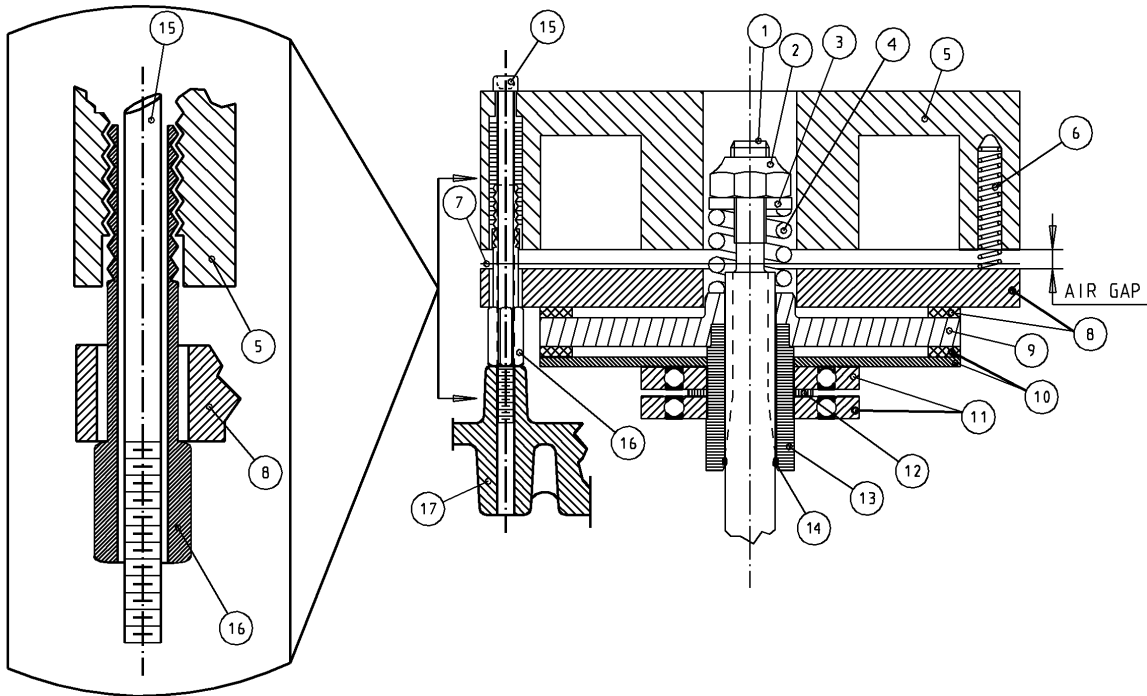

Figure 5.2
## SEE FIGURE 5.2
4. Insert a socket (13mm) through inspection hole, and slide it over nut (item 2 - Figure 5.2).
### 5.3.3 Hoist Motor Brake Adjustment (See Figure 5.2)